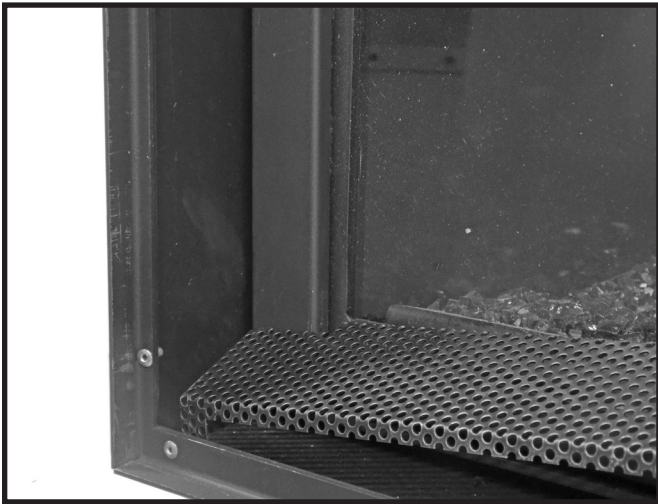
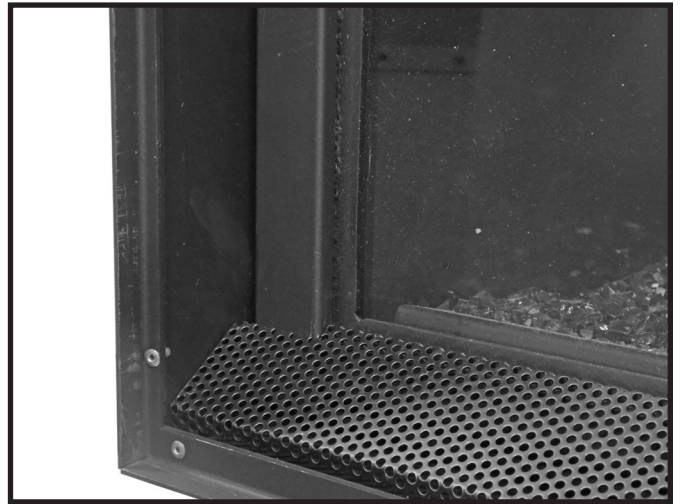

Figure 63: Installing bottom trim.
Figure 64: Bottom trim in place.
4. The meshed trim piece for the bottom rests on the floor and in the gap between the frame and the glass fireplace door (Figure 63 and Figure 64)